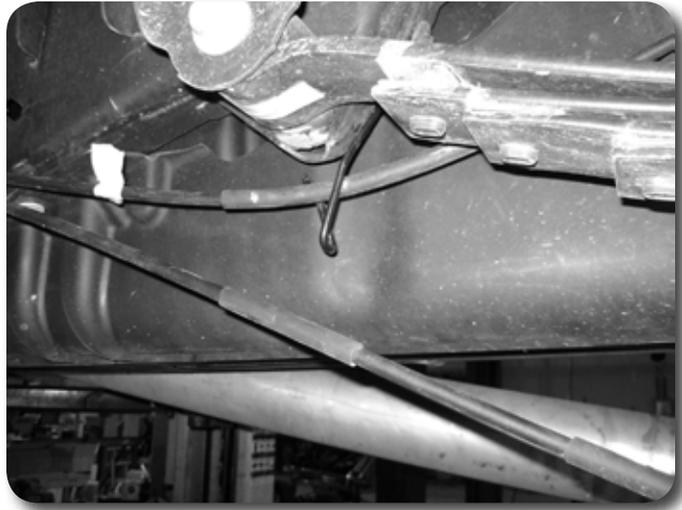

Figure 9
16. Remove the driver's side parking brake cable from the driver's side bracket that was removed from the frame. Move the passenger's side cable into the lower section of the bracket. Reattach the bracket to the frame and tighten hardware securely. **Figure 9**